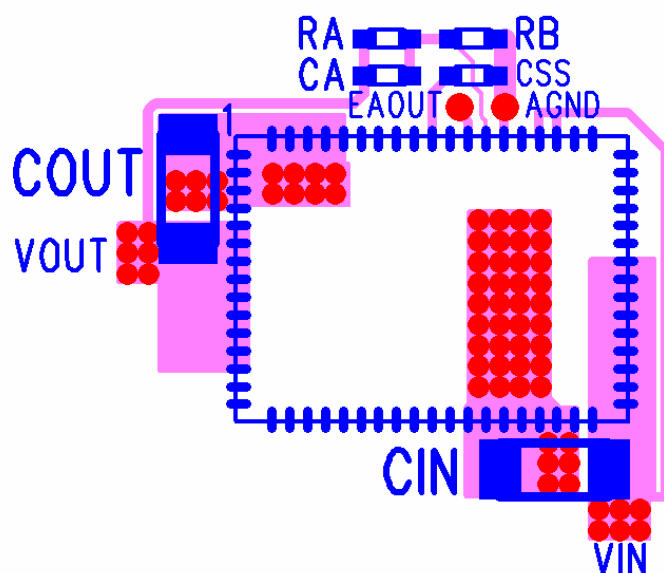

**Figure 6: Example of synchronizing multiple EN5364QIs in a daisy chain with phase delay.**
In all cases, S\_OUT can be delayed with respect to internal switching clock or the clock applied to S\_IN. Multiple EN5364QI devices on a system board may be daisy chained to reduce or eliminate input ripple as well as avoiding beat frequency components. The EN5364QIs can all be phase locked by feeding S\_OUT of one device into S\_IN of the next device in a daisy chain. All the switchers now run at a common frequency. The delay is controlled by the value of a resistor connected between S\_DELAY and AGND pins. The magnitude of this delay as a function of S\_DELAY resistor is shown in the Electrical Characteristics table. See Figures 6 and 7 for an example of using phase delay.
The EN5364 can be synchronized to an external clock source or to another EN5364 in order to eliminate unwanted beat frequencies. Furthermore, two or more synchronized EN5364's can have a programmable phase delay with respect to each other to minimize input voltage ripple and noise. An example of synchronizing three EN5364's with approximately equal phase delay between them is shown in Figures 6 and 7. The lowest allowable value for the S\_DELAY resistor is 10k $\Omega$ .
**Figure 7: Example of a possible way to synchronize and use delays advantageously to minimize input ripple.  $R1 \sim 39k\Omega$ ,  $R2 \sim 33k\Omega$ . (Refer to Figure 6 for  $R1$  and  $R2$ .)  $R3$  does not matter in this case.**